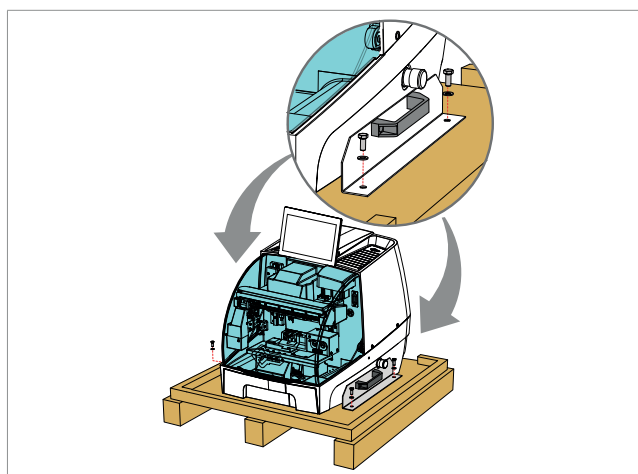

Fig. 13
- 4) Remove the screws attaching the machine-locking side brackets to the pallet (Fig. 13).